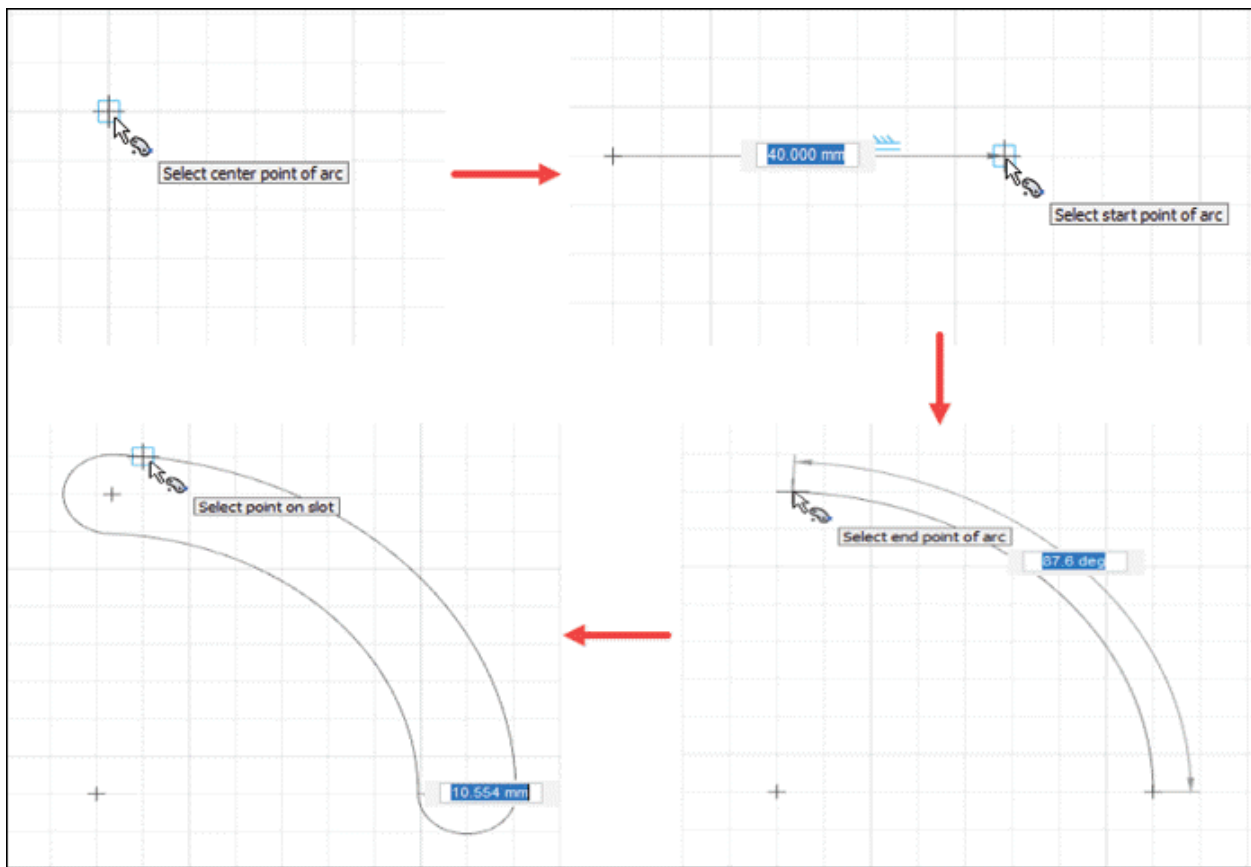

Figure-36. Creation of center point arc slot
- Click to specify the slot width or enter desired value in dynamic input box to create the slot; refer to Figure-36.